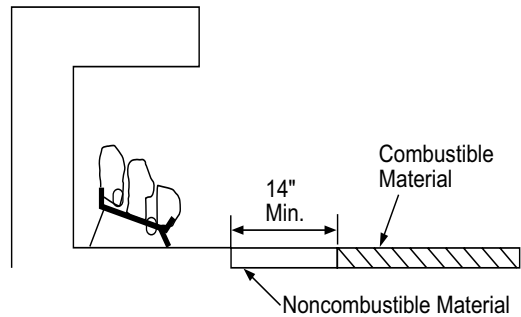

Figure 6 - Minimum Fireplace Clearances If Installed at Floor Level
- A. If installing appliance on the floor level, you must maintain the minimum distance of 14" to combustibles (see *Figure 6*).